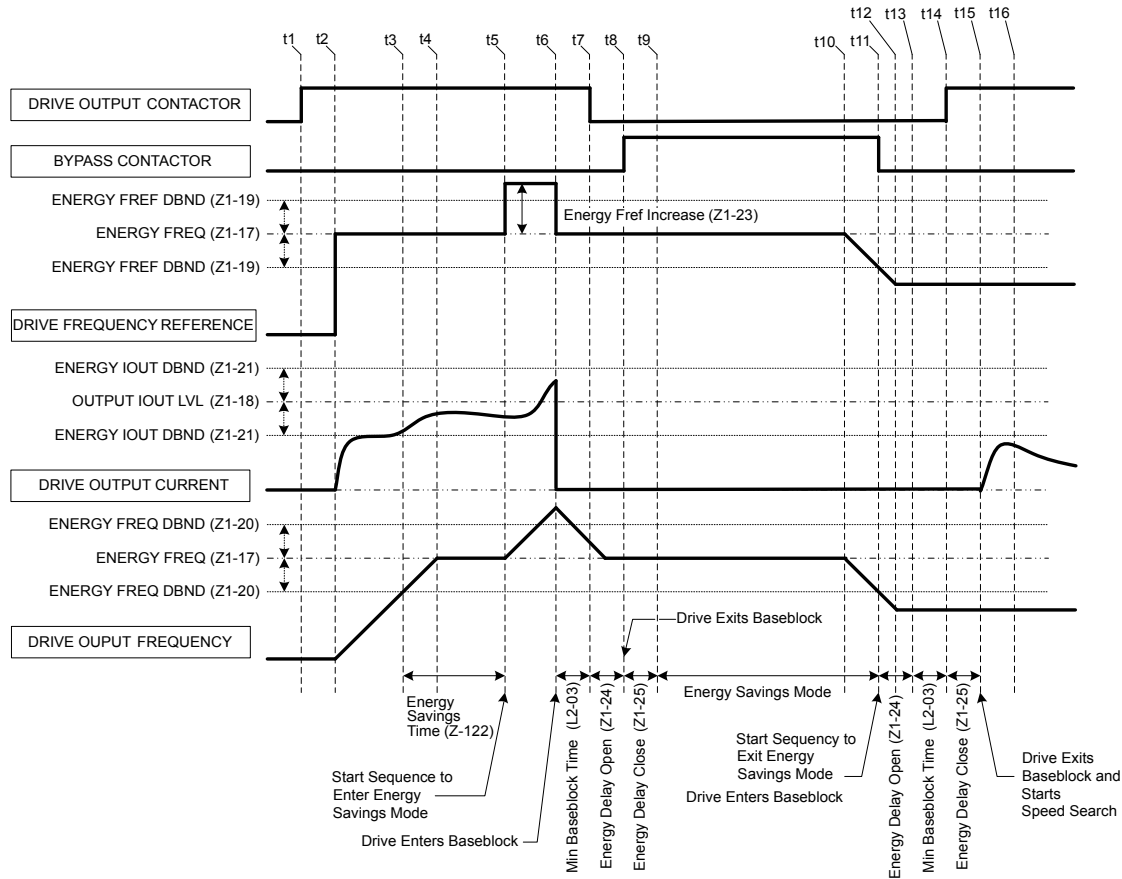

Figure 5.61 Drive Bypass Energy Savings Mode Sequence Example
7. Then the drive catches a spinning motor via Speed Search and follows frequency reference to take control. Refer to Figure 5.61 for an example of the sequence that is followed when entering and exiting the Energy Savings Mode.